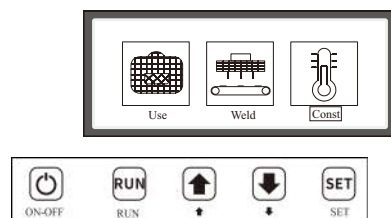
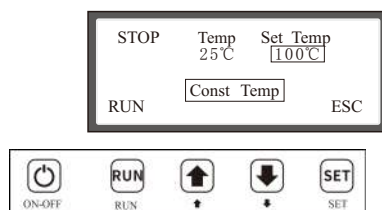

Fig. 15
Fig. 16
- (5) Press “SET” Button to switch “Heat Preservation” to highlighted state, and press “PAGE DOWN” button to switch to “cooling”. Press “SET” Button again to switch “TEMPERATURE” to highlighted state. Press “PAGE UP” button and “PAGE DOWN” button to conduct the setting of “TEMPERATURE” as shown in Fig. 15. The heat preservation setting range shall be lower than the soldering temperature. “TIME” setting is not available under cooling mode and its default value is 00:00.
After pressing “POWER SUPPLY”, “PRODUCTION” is highlighted. Press “PAGE DOWN” button to switch “CONSTANT TEMPERATURE” to highlighted state, which means being selected as shown in Fig. 15. Press “RUN” button to confirm entry as shown in Fig. 16. Press “PAGE UP” button and “PAGE DOWN” button to conduct temperature setting. Press “RUN” button to run and Press “SET” Button to exit.